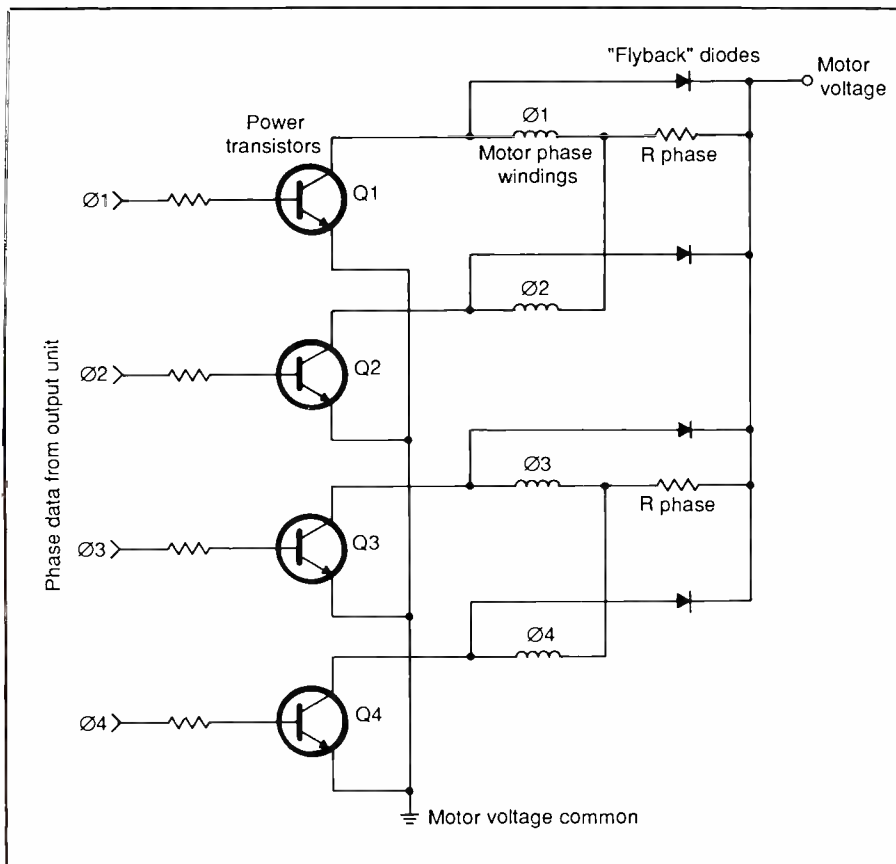

Fig. 9. Example of a schematic diagram of a two-chip stepping-motor control system based on the SMC 10 and AA8416 chips.
some power transistors, as shown in Fig. 9.
The Indexer Unit in Fig. 9 is the SMC 10 chip. Default switches DS0 and DS1 set the range of index steps. The INDEX 0, 1, 2 and 3 switches set the
The Control Unit (CU) in the Fig. 9 circuit consists of all the control switches in the system: INDEX 0 through INDEX 3, RATE 0 through RATE 3, STOP, JOG, DS0, DS1, Ea and Eb. In this system, no direct micro-computer control is used. It would be a simple matter to group the switches by function and mount them to the front panel of an enclosure.
The Output Unit (OU) in Fig. 9 is the AA8416 universal controller chip. The mode of motor stepping, full-step or half-step, is controlled by the Ea and Eb switches. The AA8416 chip accepts clock and direction in-